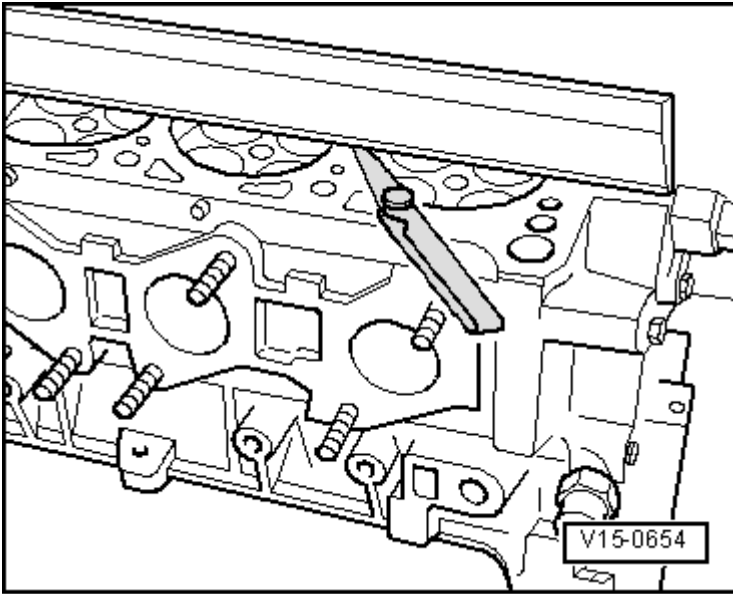

Fig. 5: Identifying Check For Distortion On Cylinder Head Straight Edge 500 mm -VAS 6075- And Feeler Gauges
- Checking for distortion, refer to **Fig. 5**.